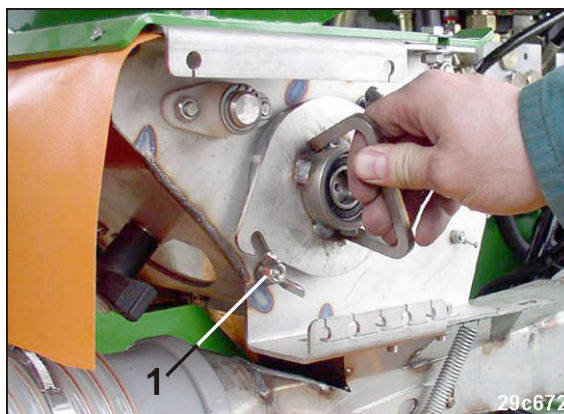

Fig. 122
3. Slacken but do not unscrew the two winged nuts (Fig. 122/1).